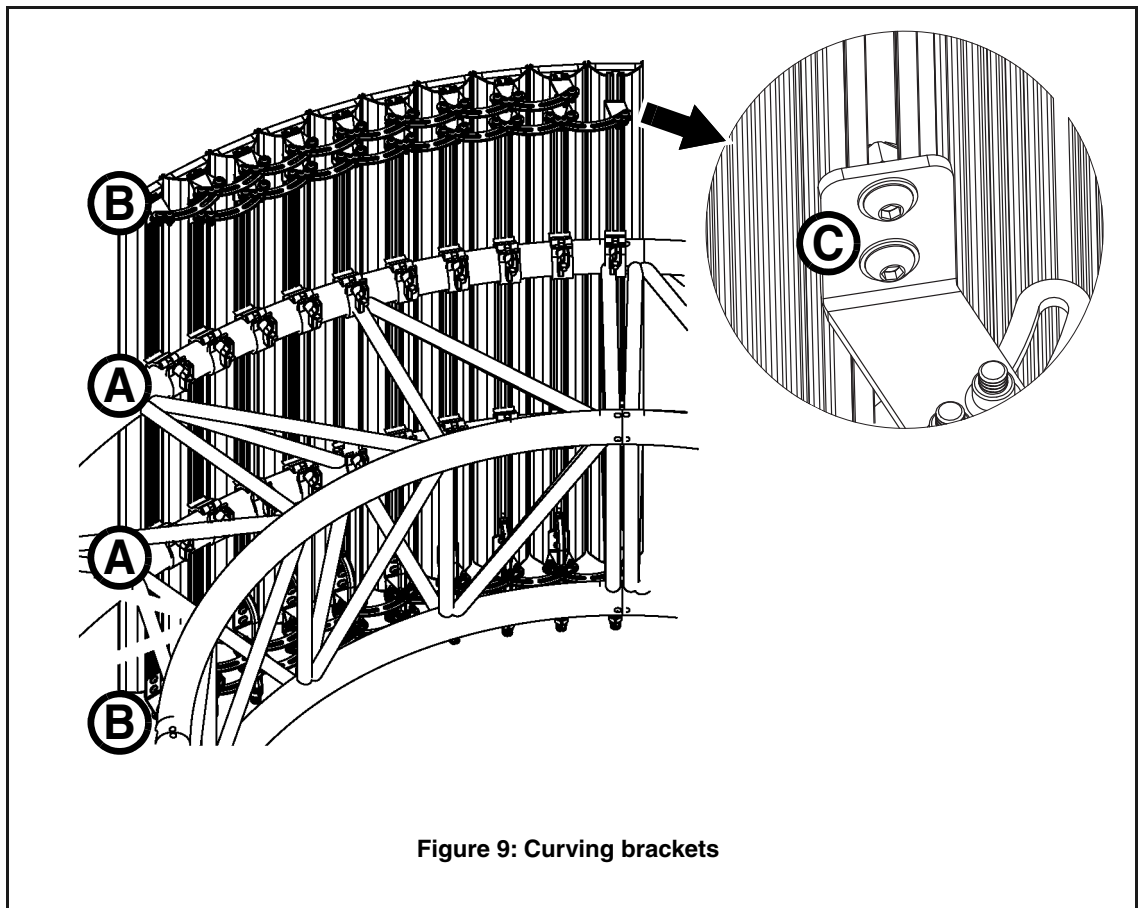

Figure 9: Curving brackets
The adjustable curving brackets available from Martin let you install fixtures in precisely aligned curves. You can lock fixtures at angles of up to 60° from each other in an outward-facing curve as shown in Figure 9.
1. See Figure 9. Note the positions of the half-coupler clamps **A** and curving brackets **B**. Note that if the truss will be in a location where fixtures may cause injury or damage if they fall, you must also fasten a safety cable attachment bracket to each fixture so that you can attach each fixture to a secure anchoring point. Pass fasteners through the cutouts and into the channels in the back of fixtures in a suitable order so that curving brackets, safety cable attachment brackets and half-coupler clamps can be arranged correctly.